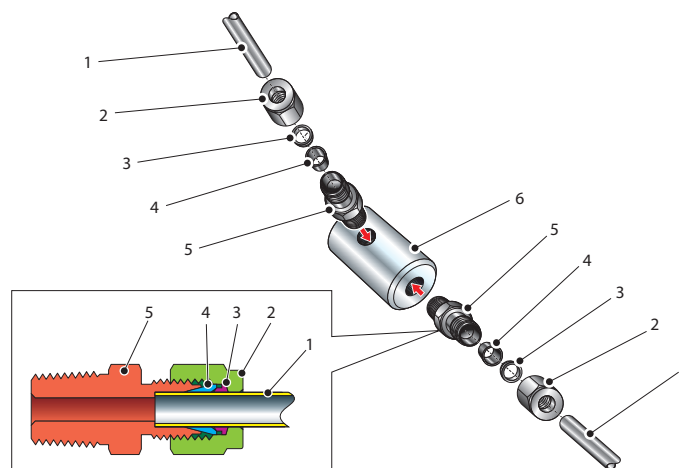

Figure 23 Sample Block Gas Connections
Sample gas connections are made to the Gas In and Gas Out ports on the sample block see *Figure 23*. Either port on the sample block may be used as the Gas Input port (i.e. for connection purposes the ports are interchangeable).
Both the Input and Output gas connections are 1/8" NPT. It is recommended that both the Gas Input and Output connections are made via 1/8" NPT to 6mm or 1/8" NPT to 1/4" stainless steel tube adaptors (2 to 5 – *Figure 23*). The method of connection to the sensor block (6) is as follows:
3. Switch on the power supply to the instrument. The instrument display will now come on, typically showing the default parameters and units as detailed in *Figure 23*.